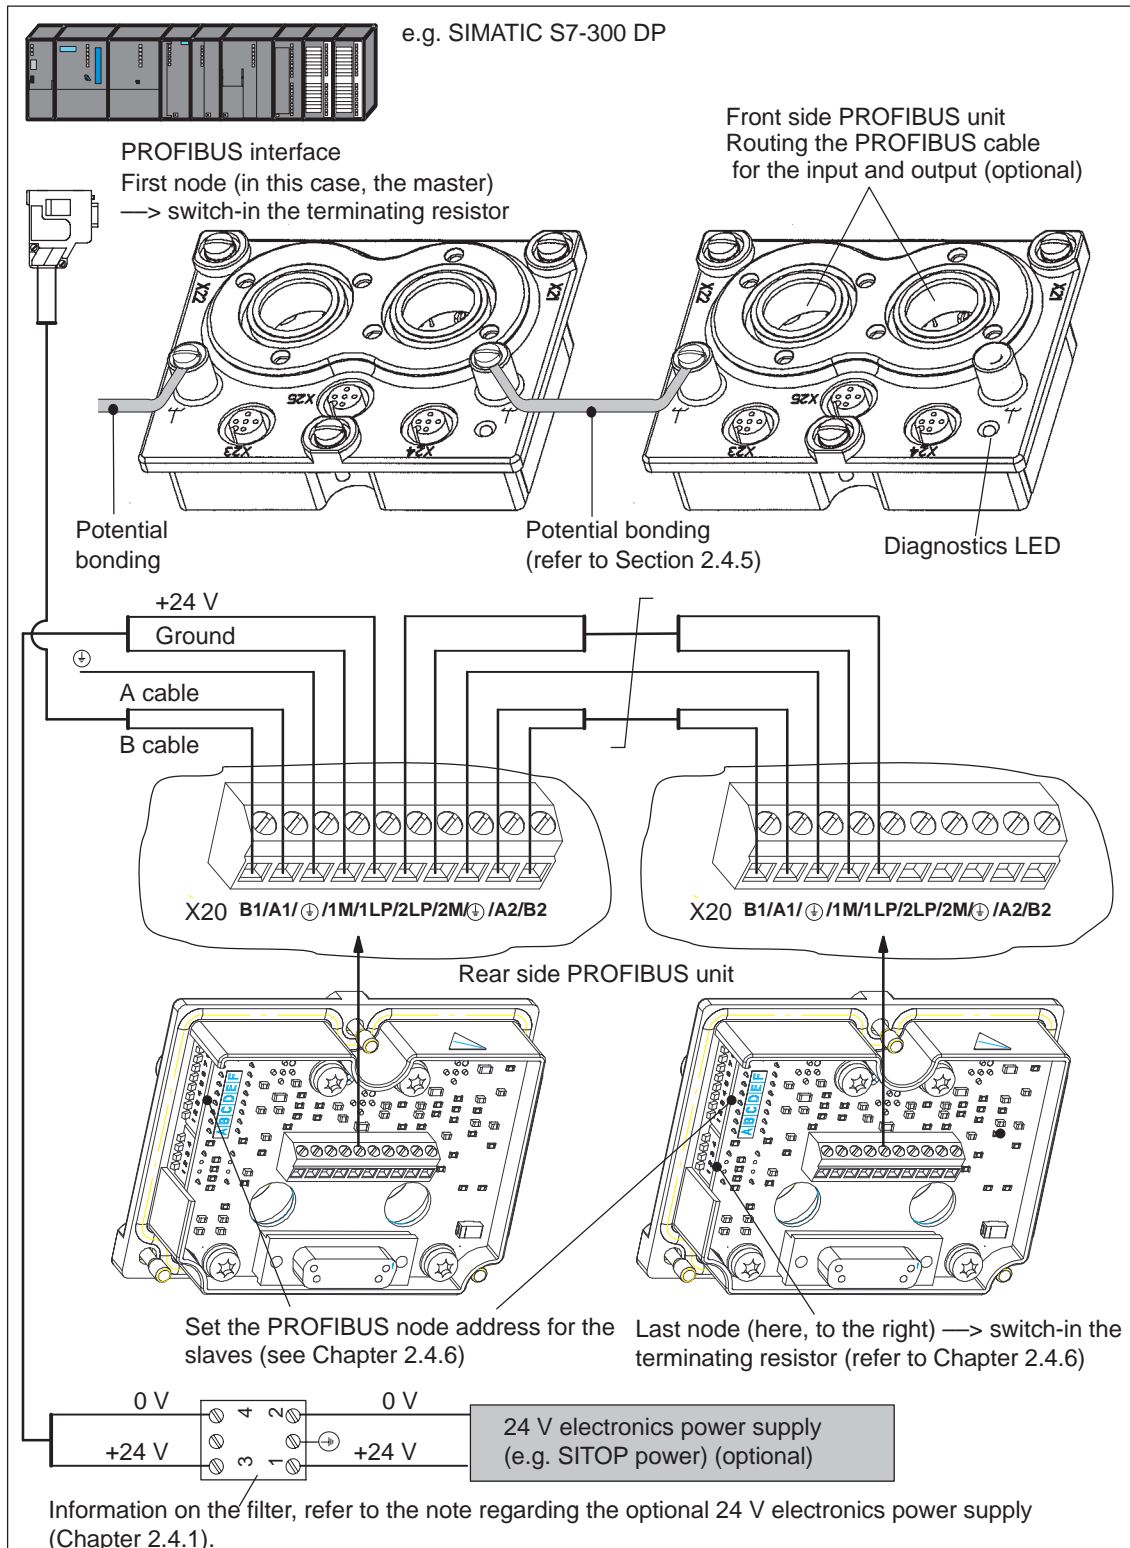

Fig. 2-22 Connection and wiring overview, PROFIBUS cable (example with additional electronics power supply)
Recommendation: Route the potential bonding conductor in parallel to the PROFIBUS cable (cable cross-section, 4 to 16 mm²). There are 2 M5 threads available on the PROFIBUS unit (see Fig. 2-22).
- In order to increase the immunity against transient interference and disturbances (burst) and to maintain the limit values of EN 61000-6-2, an interference suppression filter should be connected at the shielded cable entry point using a short connection (<15 cm) with respect to PE (refer to Fig. 2-22).